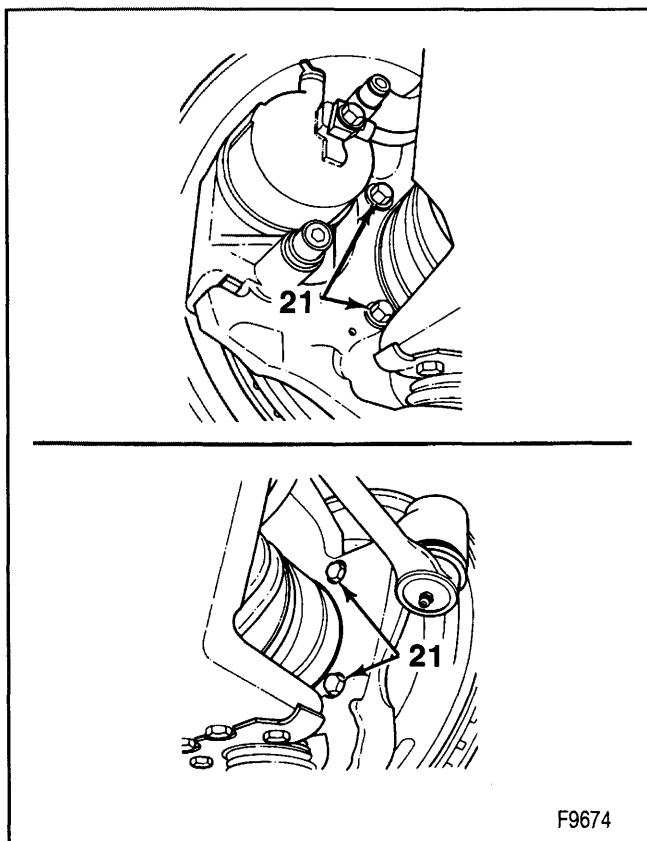

Figure 30—Removing Rotor Retaining Bolts (K-3)
- 3. Nut (120)
- 4. Hub/rotor retaining bolts (21). (figure 30).
- 5. Using wheel puller, remove rotor assembly (20).
Install or Connect (Figure 30 through 33)